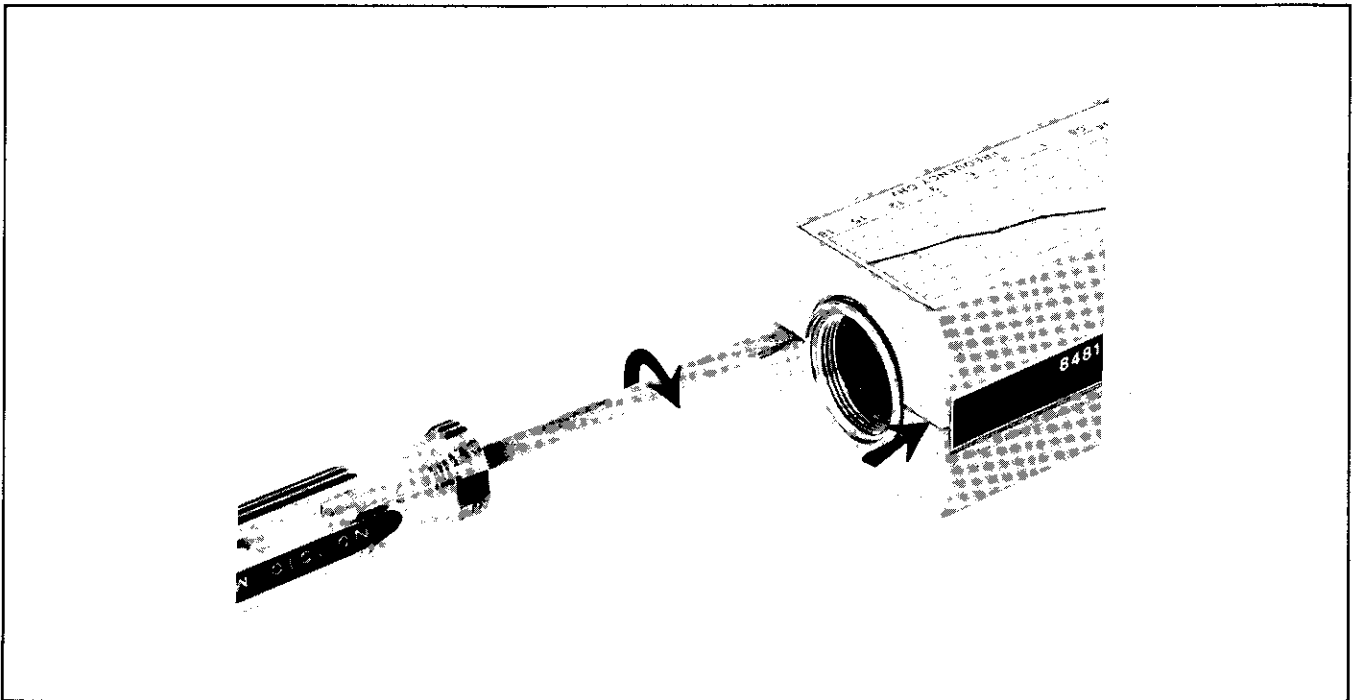

Figure 5. Removing the Power Sensor's Cover
- a. Insert the blade of a small screwdriver between the two-piece plastic shell at the rear of the Power Sensor. Gently pry the sections apart. (See Figure 5.)